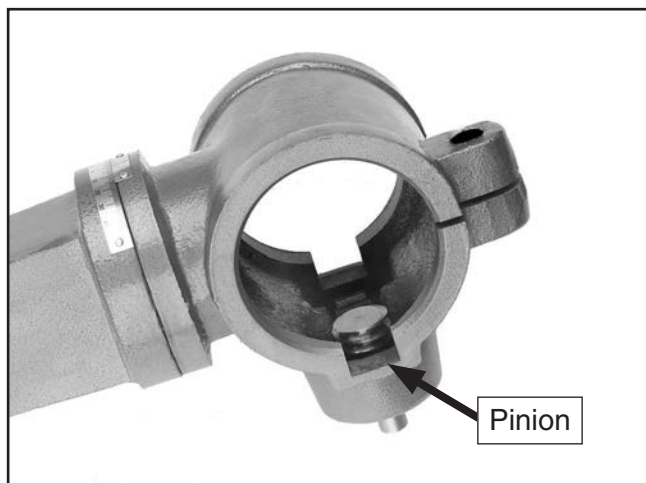

Figure 13. Pinion correctly installed in table support.
3. Place pinion in table support, as shown in **Figure 13**, so pinion and gear teeth mesh together.